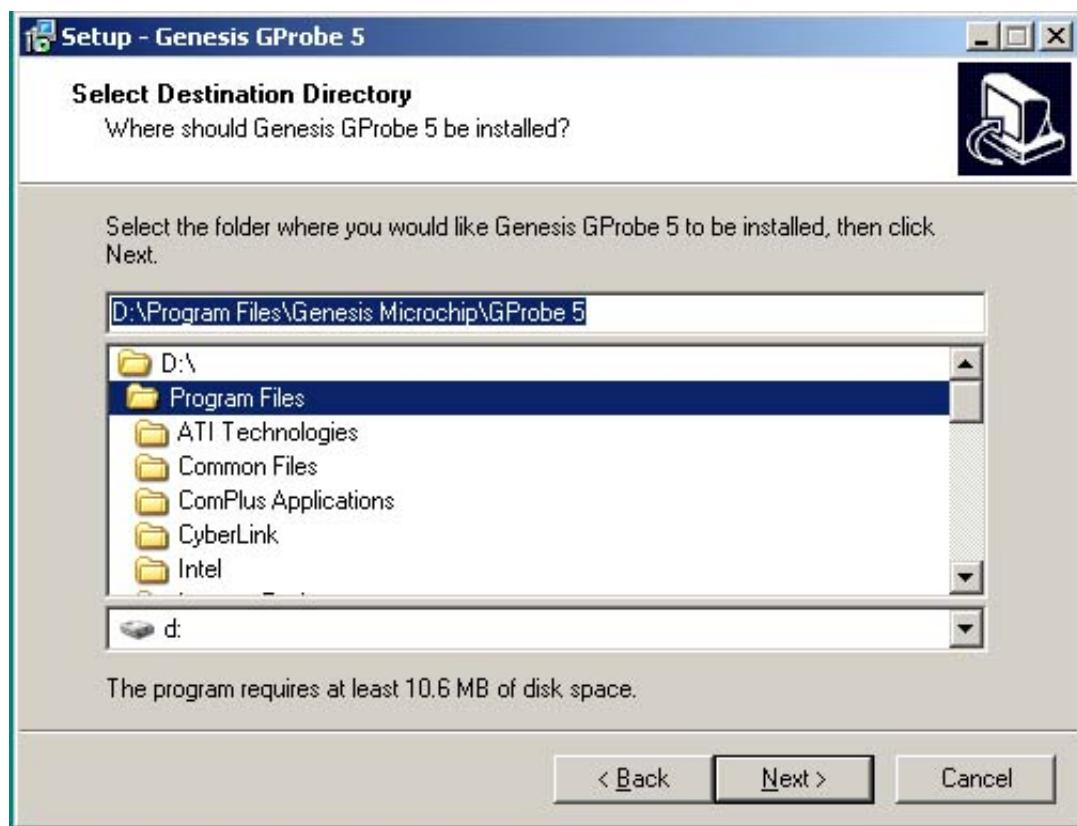

Fig. 0.4
0.4 Keep on press "Next", see Fig. 0.4